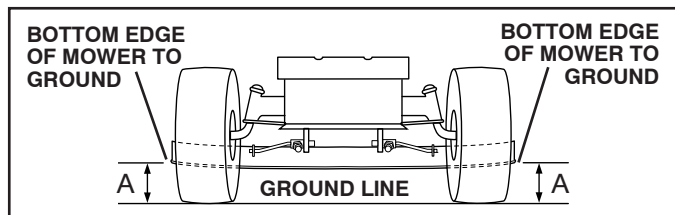

Fig. 16
**SIDE-TO-SIDE ADJUSTMENT** (See Figs. 16 and 17)